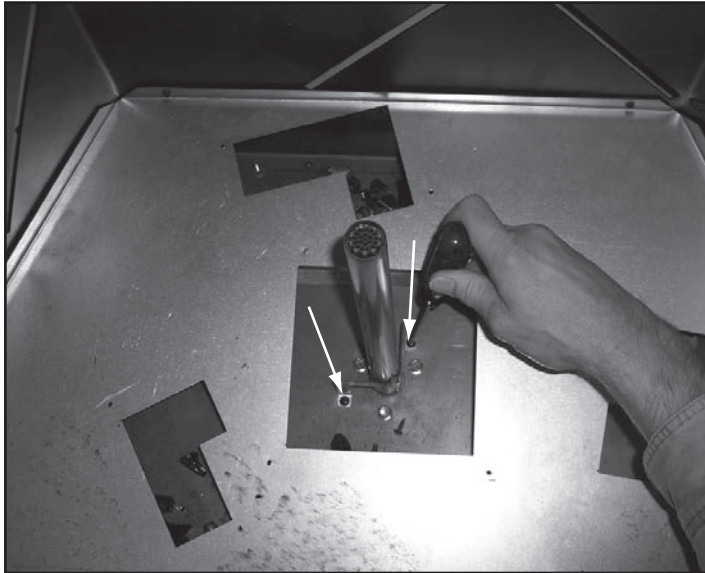

Figure 4 Remove Center Burner Tube
- Remove the center burner tube by removing two screws holding it in place. See Figure 4.